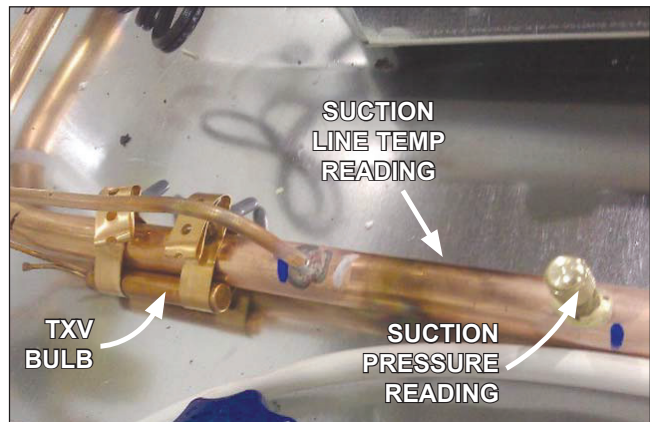

Fig. 14 Obtain pressure and temperature readings
1. Obtain suction pressure from the access port. Obtain the suction line temperature from the area near the TXV bulb at the outlet of the evaporator coil (Fig. 14).